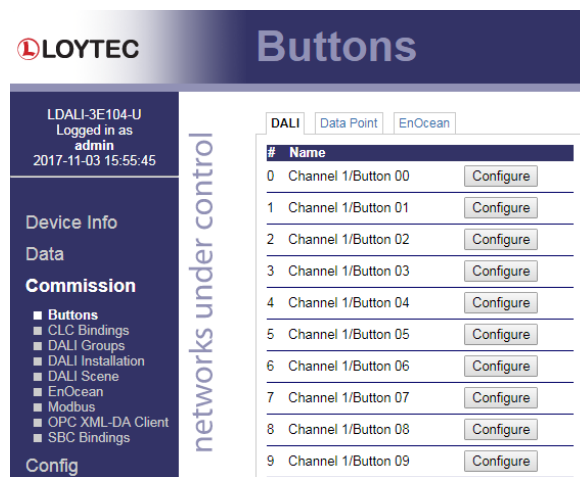
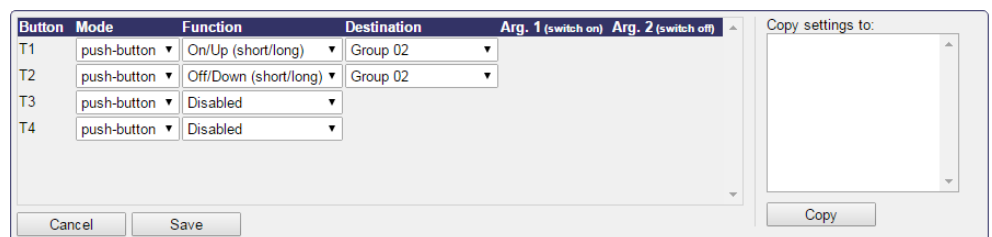

Figure 53: Button Functions.
Figure 54: Configure DALI button functions.
1. On the **Buttons** page, stay on the **DALI** tab (see Figure 53) and click on the **Configure** button next to the button device that is to be configured. The dialog shown in Figure 54 appears.